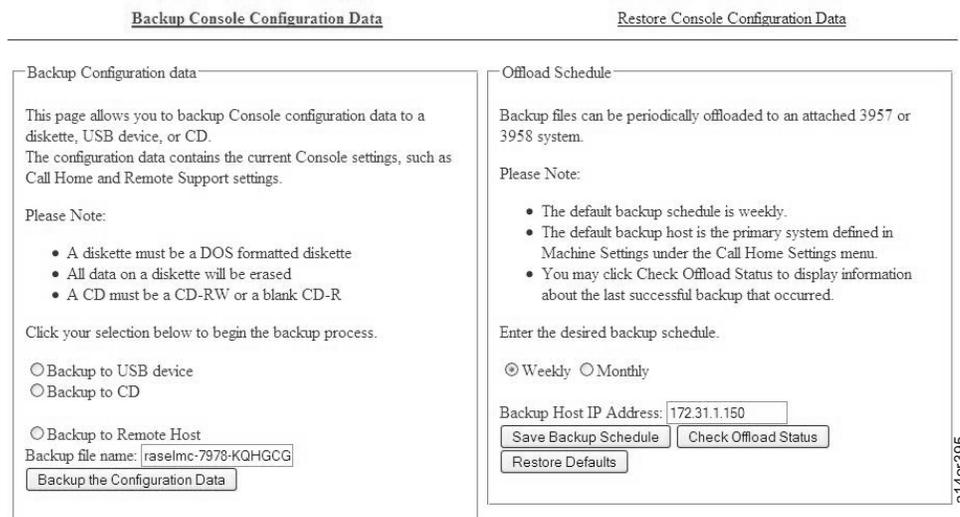

Figure 125. Backup Configuration Data Screen. The options you will see on this screen are model dependent.
5. Click **Backup/Restore**. You see the screen shown in Figure 125.
- Click **Backup/Restore**. You see Figure 125 on page 98.